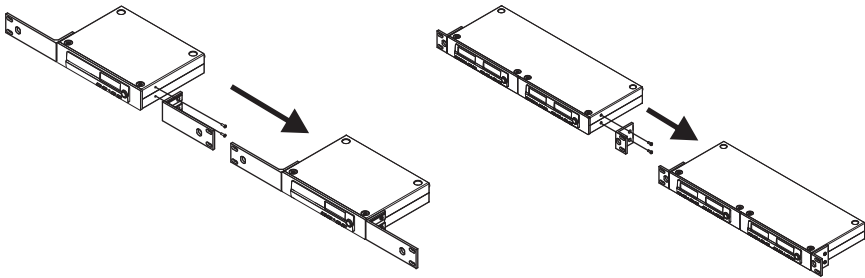

Fig. 4
1. Receivers can be installed on an EIA standard 19-inch rack case. Fig. 4